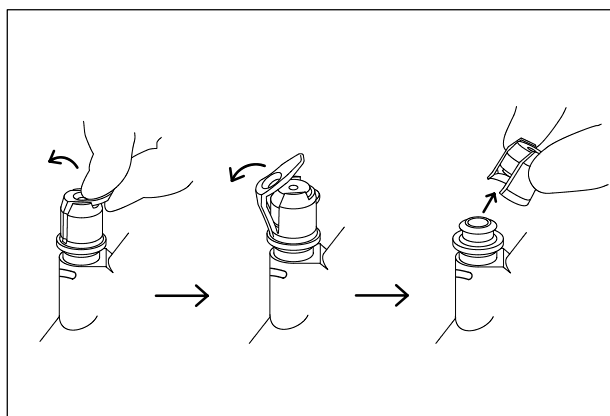

Figure 7.8
3. Remove the single-use biopsy valve (MAJ-210) as shown in Figure 7.8 below and discard it.